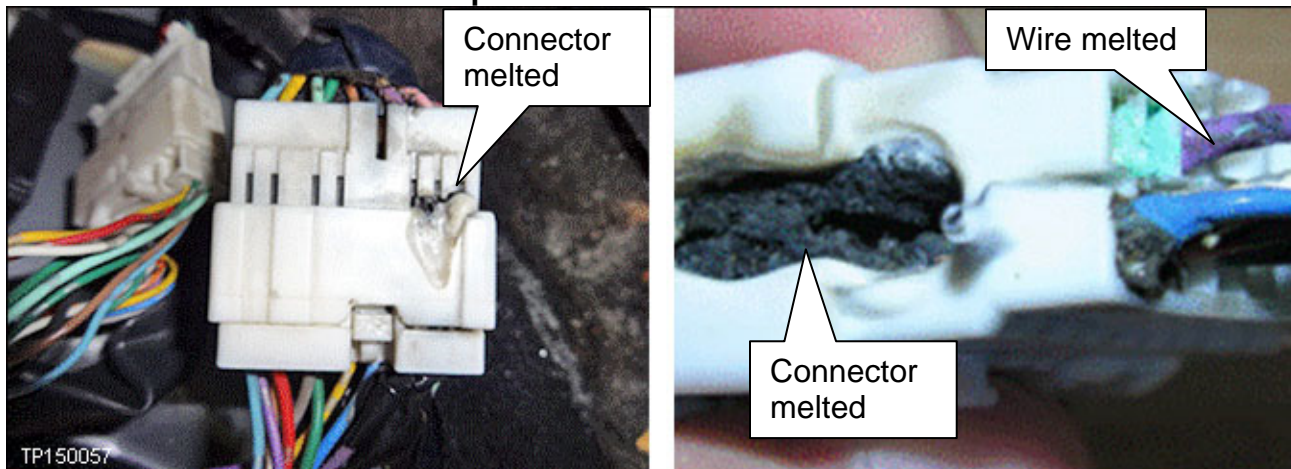

Figure 2
- Look for any evidence of connector melting (see Figure 2 on the next page).
- Look for any evidence of wire melting (see Figure 2 on the next page).